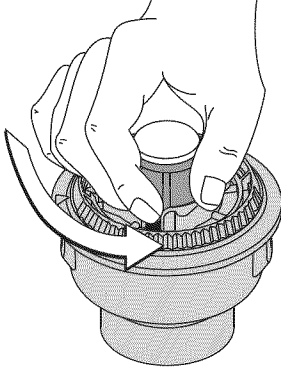

Fig. 17
1. Hold the outer spool, and unscrew the bump knob counterclockwise (Fig. 17).